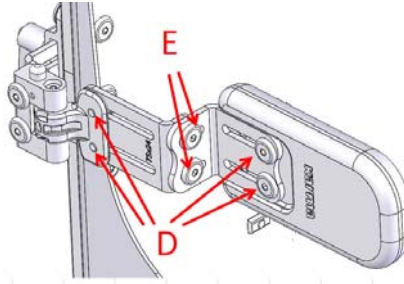

Figure 5-130
5.3.10.5 Use the #4 Allen Key Wrench to loosen the screws D. The trunk support can be moved forwards or backwards. Use the #4 Allen Key Wrench to loosen the screws E. The trunk support can be moved leftwards or rightwards. Re-tighten all screws. (Figure 5-130)